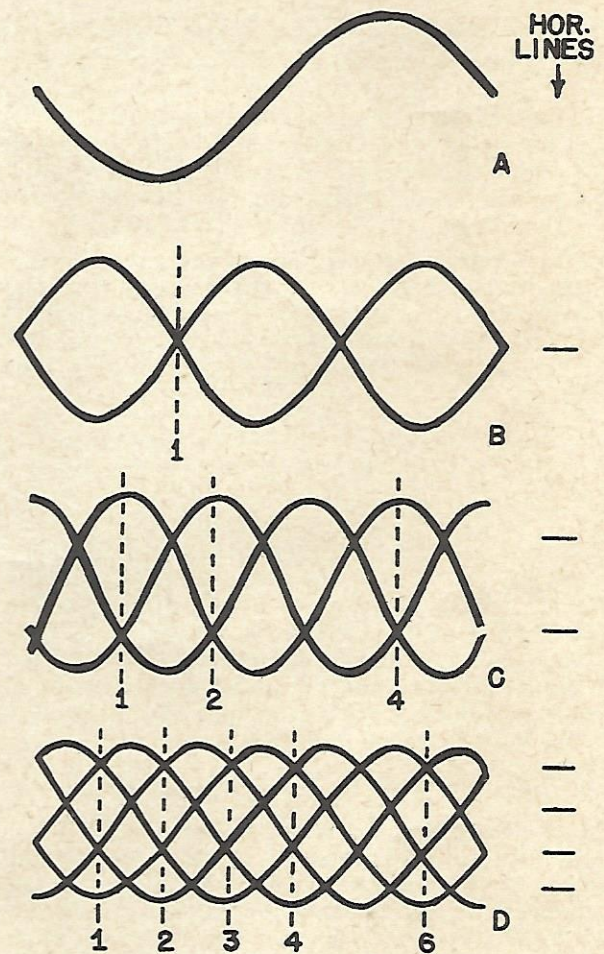

Figure 7.11—Frequency Ratios
Where Number of peaks are at either top or bottom of pattern and Hor. lines are those which may be drawn through the intersections of the pattern. NOTE: The denominator will never be less than one (1). The denominator may also be determined by counting the number of pattern lines which intersect a vertical line through any part of the pattern. The patterns of Figure 7.11 are as follows: